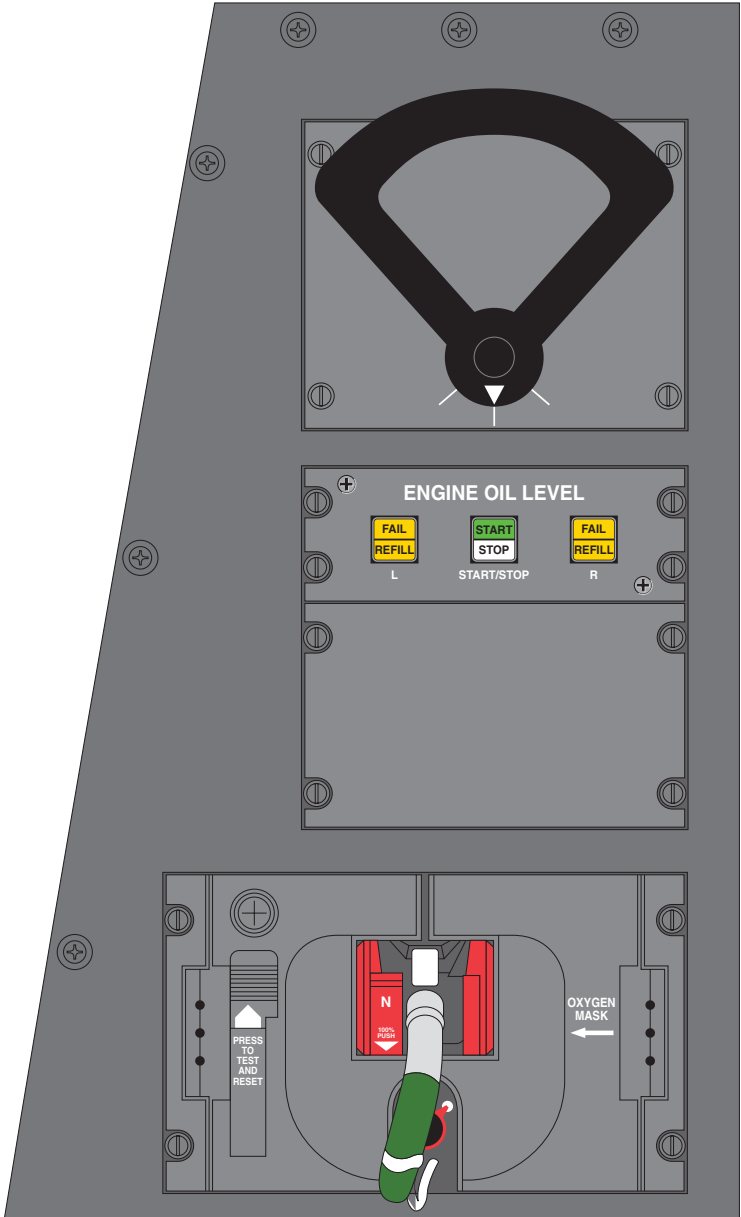

Figure 1-4 Captain's Side Console
- Captain's side console (Figure 1-4)